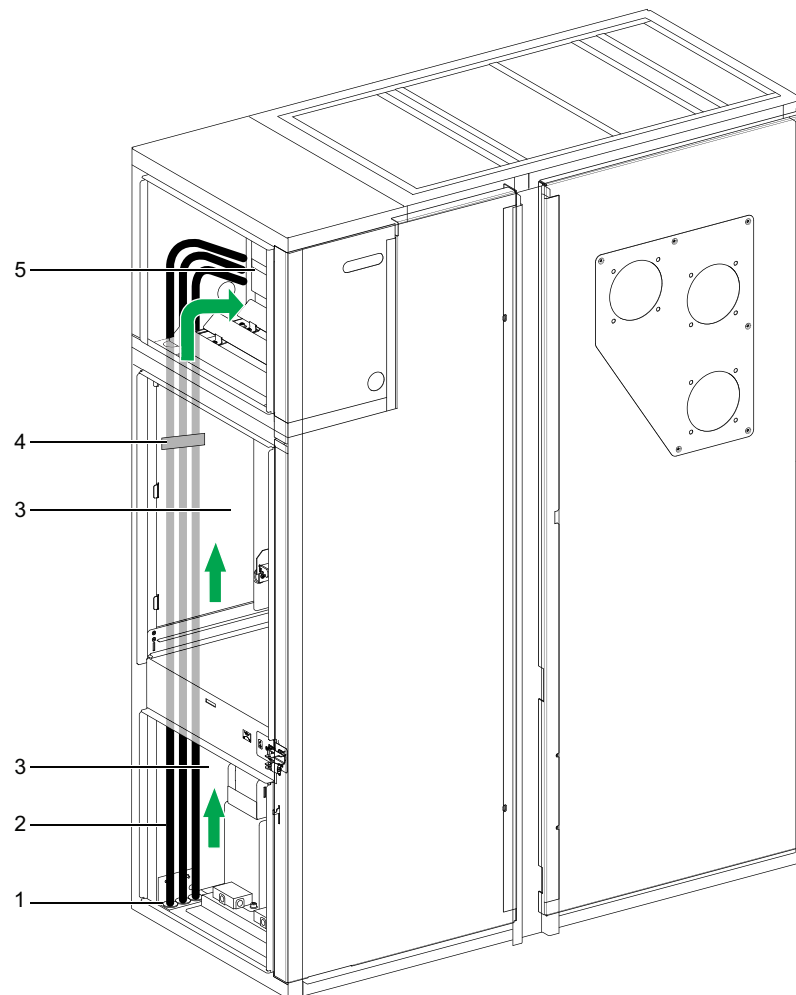

Figure 68
1. Remove the metal cable duct covers (1) on the left inside of the cubicle (Figure 68).
2. Route external cables (2) from the cable basement through the gland plate neck ring (3) in the cubicle floor and route them in the cable duct to the LV compartment.
3. Fasten the external cables (2) to the cubicle using cable clamps (4).